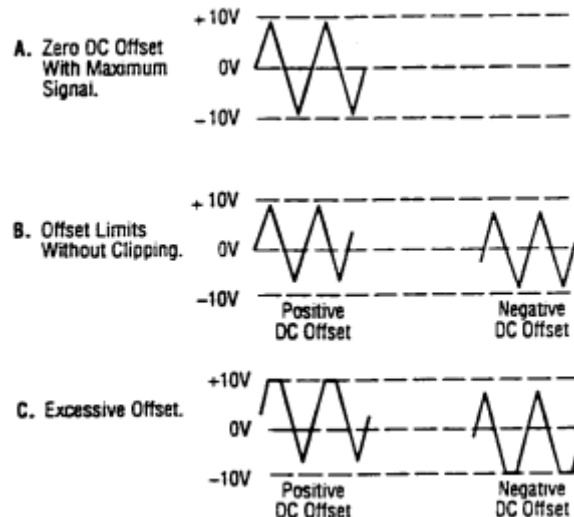

Figure 3. Use of DC OFFSET Control
7. A superimposed DC component can be added to the output signal by engaging the **DC OFFSET** switch (14) to enable operation of the **DC OFFSET** control (5). Rotation of this control adds a positive or negative DC component to the output signal. The DC component introduced is independent of the **OUTPUT LEVEL** control and can be varied by  $\pm 10$  volts open circuited or  $\pm 5$  volts into  $50\ \Omega$ . The DC Offset does not affect the **TTL/CMOS** output jack. The effect of DC OFFSET is shown in Fig. 3.
- Remember that the output signal swing of the generator is limited to  $\pm 10$  volts open circuited or  $\pm 5$  volts into  $50\ \Omega$ , and applies to the combined peak-to-peak signal and DC offset. Clipping occurs slightly above these levels. Fig. 3 illustrates the various operating conditions encountered when using the DC offset. If the desired output signal is large or if a large DC offset is required, an oscilloscope should be used to make sure that the desired signal is obtained without undesirable clipping.